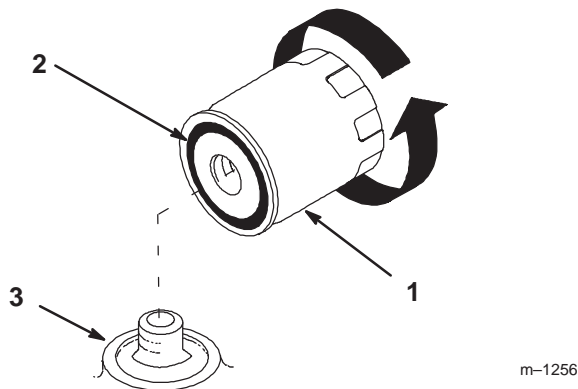

Figure 27
- Remove the old filter and wipe the filter adapter (Fig. 27) gasket surface.
- Apply a thin coat of new oil to the rubber gasket on the replacement filter (Fig. 27).
- Install the replacement oil filter to the filter adapter. Turn the oil filter clockwise until the rubber gasket contacts the filter adapter, then tighten the filter an additional 3/4 turn (Fig. 27).